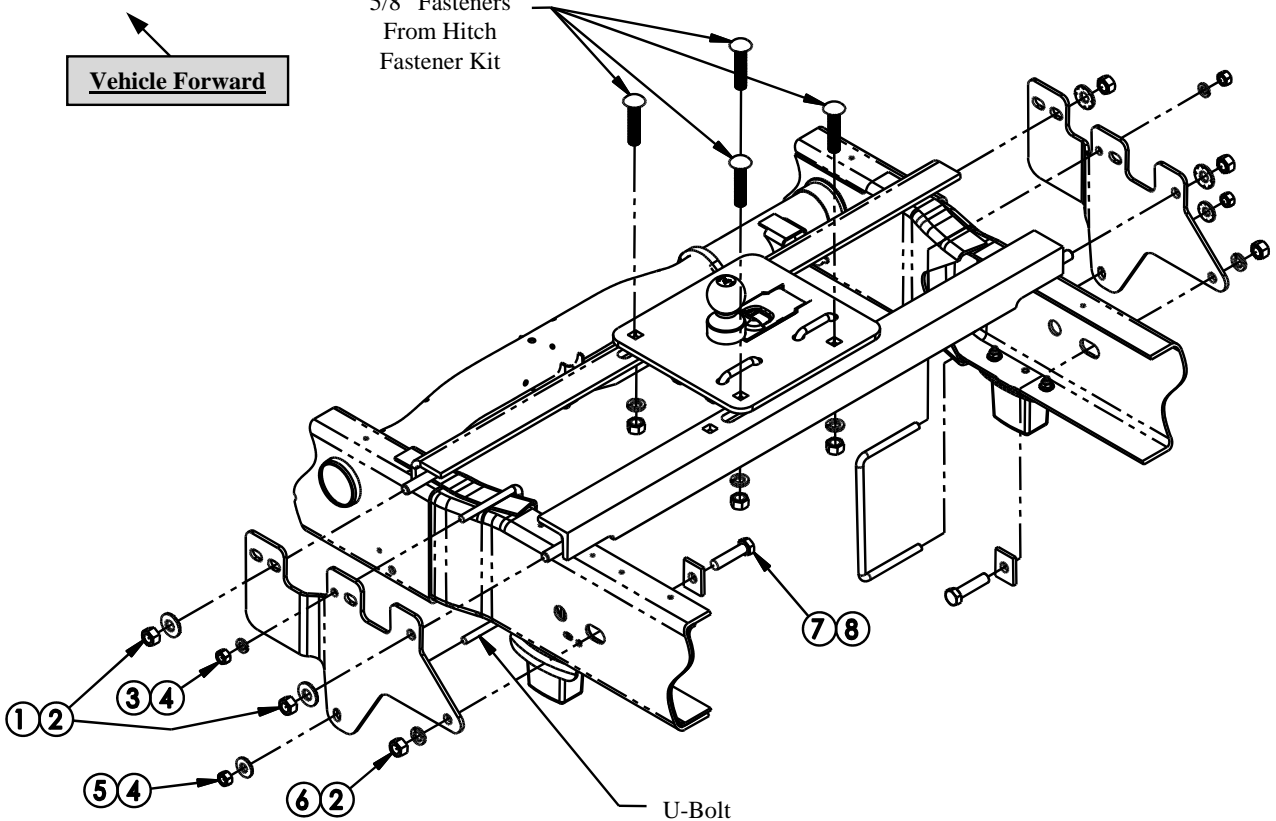
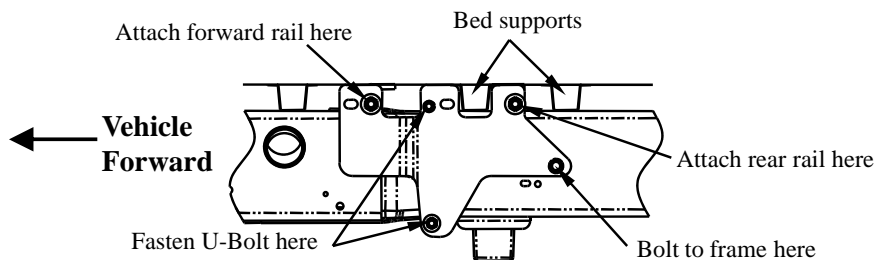

Figure 6
Figure 8
7. Line up the mounting holes on the frame brackets with the threaded studs on the ends of the rails. See Figure 8 to identify which holes on the frame brackets to use. Loosely attach frame brackets to rails with 5/8" hex nuts and conical toothed washers as shown in Figure 6.
8. Use the U-Bolts to loosely attach the frame brackets to the frame as shown in Figure 6.
9. Loosely attach the frame bracket to the frame through the slot in the frame using the 5/8" x 2-1/2" bolt, lock washer and nut as shown in Figure 6.